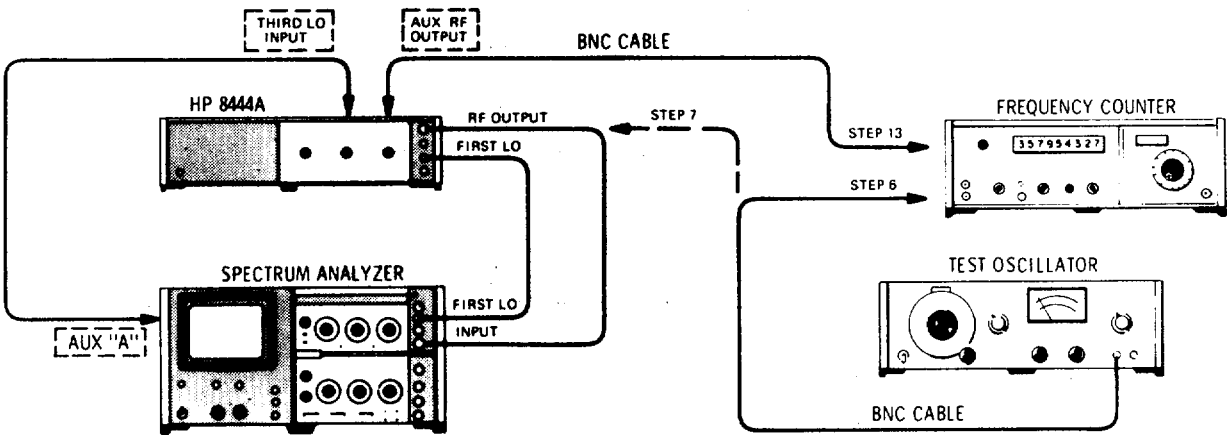

Figure 4-5. Frequency Accuracy Test Setup
2. Connect test setup as indicated in Figure 4-5 and make the following control settings: Spectrum Analyzer